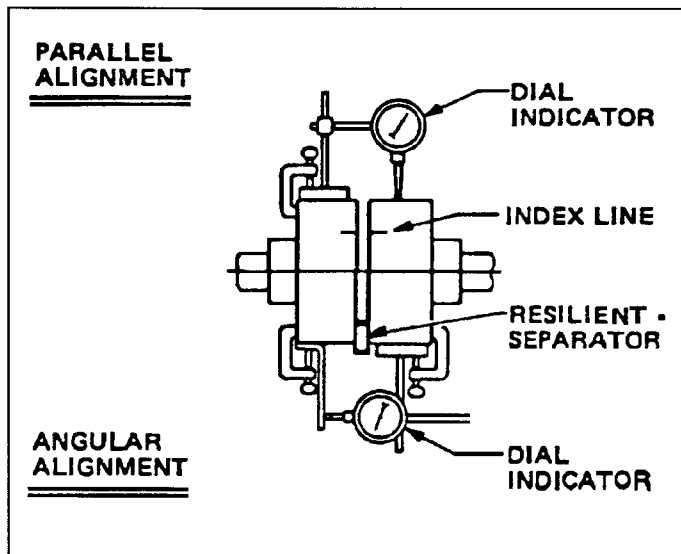

Fig. 3. Single Element Couplings
2. Mount dial indicator on one hub as shown in Fig. 3 for parallel alignment. Set dial to zero.
6. Turn both coupling halves so index lines match. Observe dial reading to see whether driver needs adjustment. Total indicator reading of 0.004 inch per inch of radius (R) is satisfactory for angular alignment.